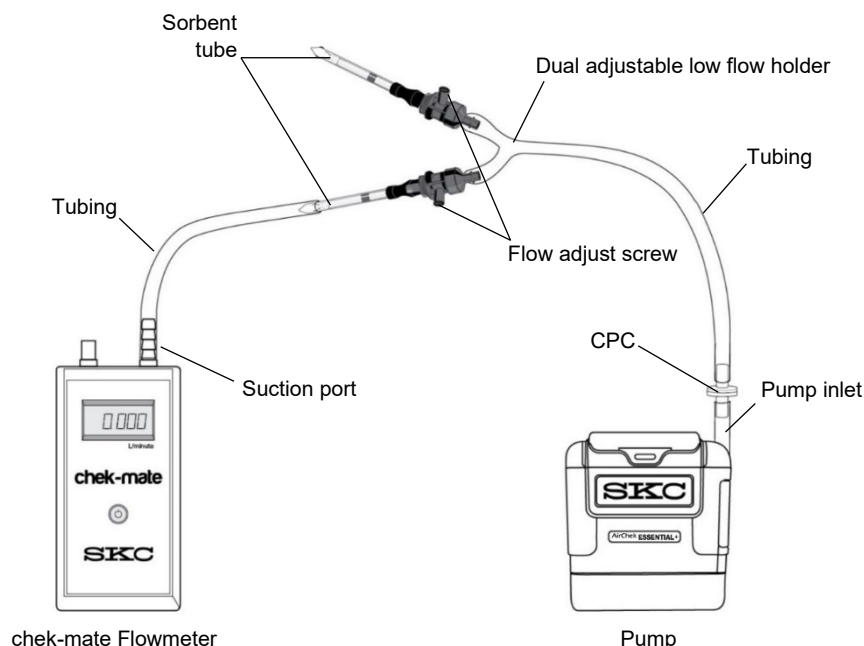

Figure 5. Flow Rate Verification Train (5 to 500 ml/min) for Multiple Tubes
- Multiple-tube sampling can be done using a Constant Pressure Controller (CPC) (Figure 5) and a Dual, Tri, or Quad Adjustable Low Flow Tube Holder accessory. See CPC and Adjustable Low Flow Tube Holder operating instructions for details on operation.
1. On the tube holder, insert an opened representative sorbent tube (arrow on tube pointing toward the pump) into the rubber sleeve on the port. Repeat for the desired number of tube samples. See Figure 5. **Note:** Place an unopened (inactive) tube in any unused port to “seal” it.
Verify Flow Rate with Dual, Tri, or Quad Adjustable Low Flow Tube Holder (see Figure 5)